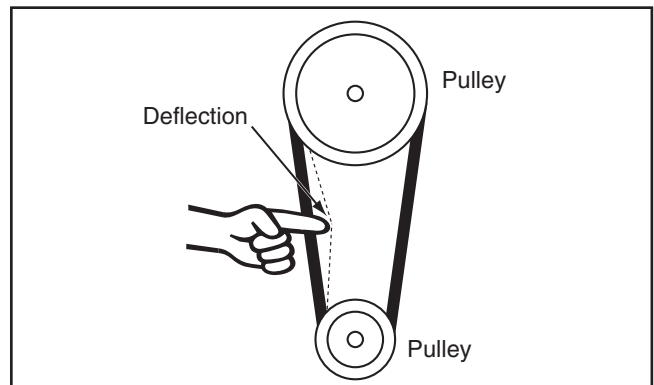

Figure 142. Checking belt deflection.
5. Press the belt in the center to check belt tension. The belt is correctly tensioned when there is approximately $\frac{1}{8}$ " deflection when it is pushed with moderate pressure, as shown in **Figure 142**.